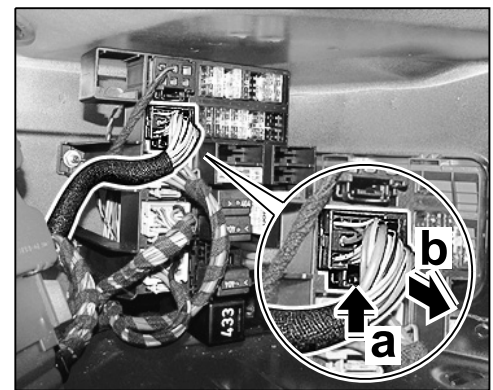

Figure 13
- 1.7.1 Release electric plug connection ⇒ *Figure 13 -arrow a-* and pull it off ⇒ *Figure 13 -arrow b-*.